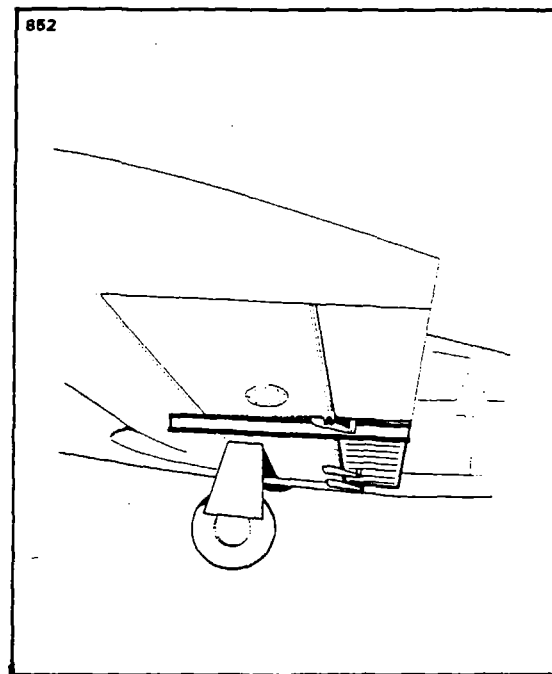
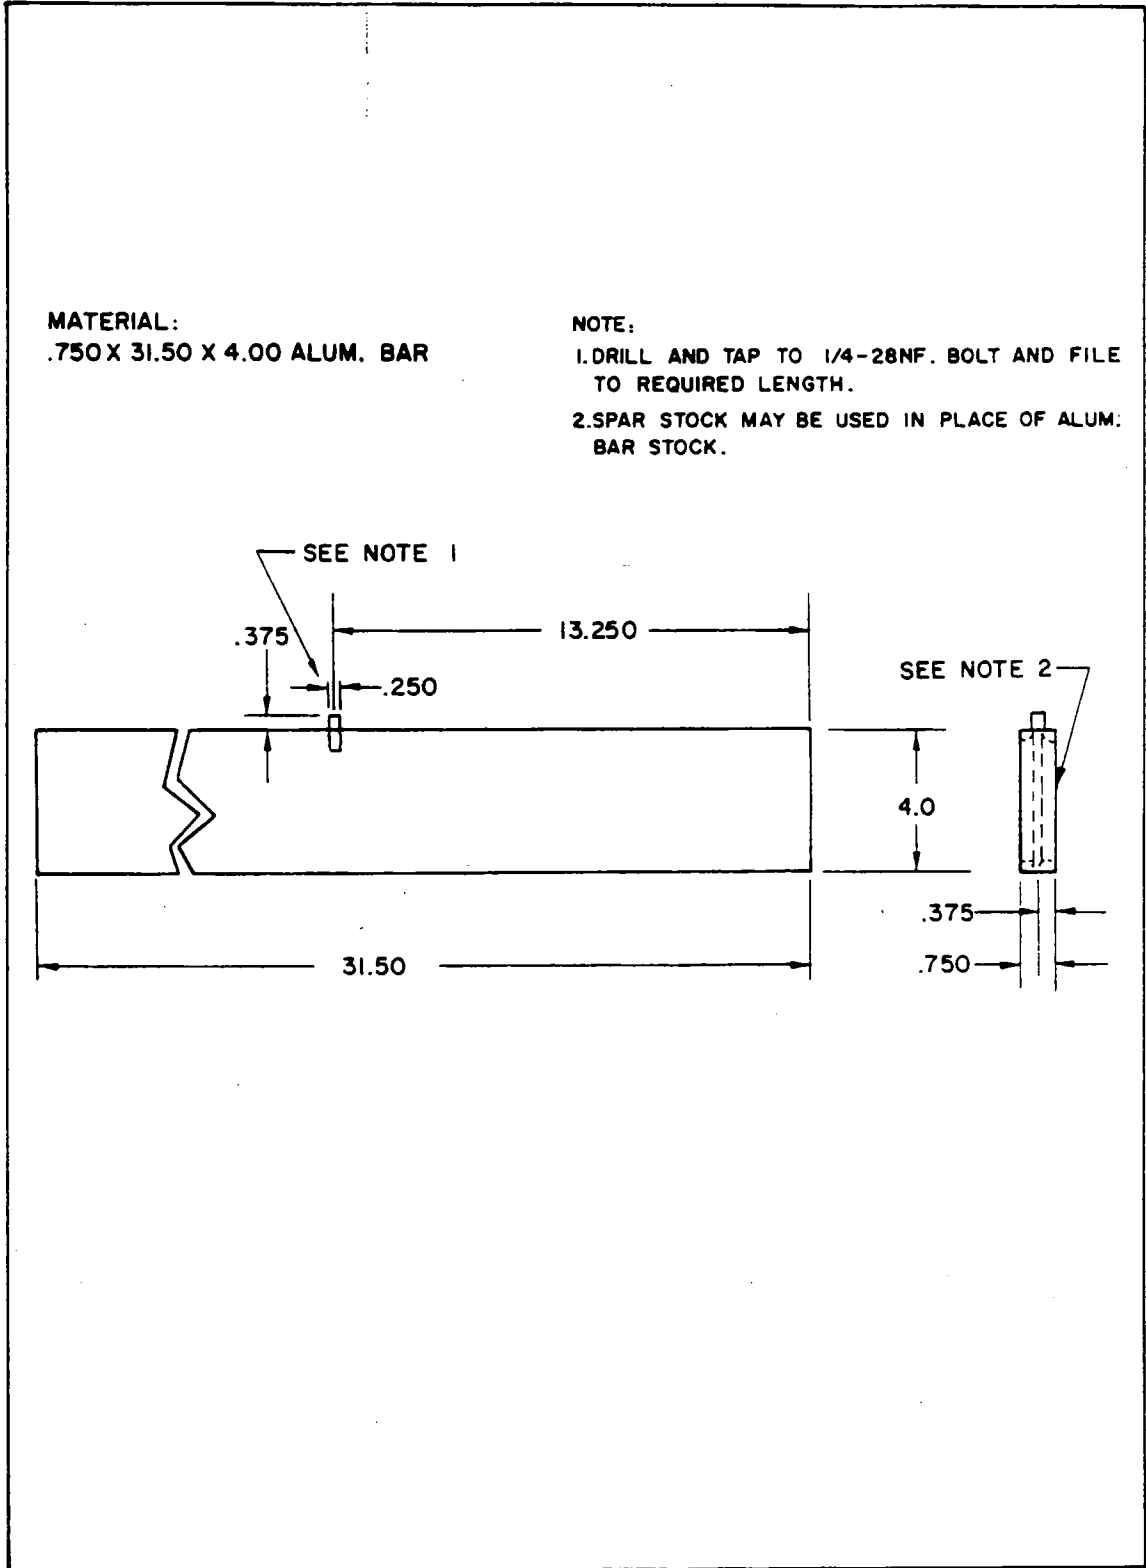

Figure 5-18. Flap Rigging Tool
Figure 5-20. Fabricated Aileron and Flap Rigging Tool
g. To check up-neutral position of the flaps, place a flap rigging tool as shown in Figure 5-18 against the underside of the wing and flap as close as possible to the outboard end of the flap without contacting any rivets. The tool must be positioned parallel with the wing ribs with the aft end of the tool even with the trailing edge of the flap. (This tool may be fabricated from dimensions given in Figure 5-20.)